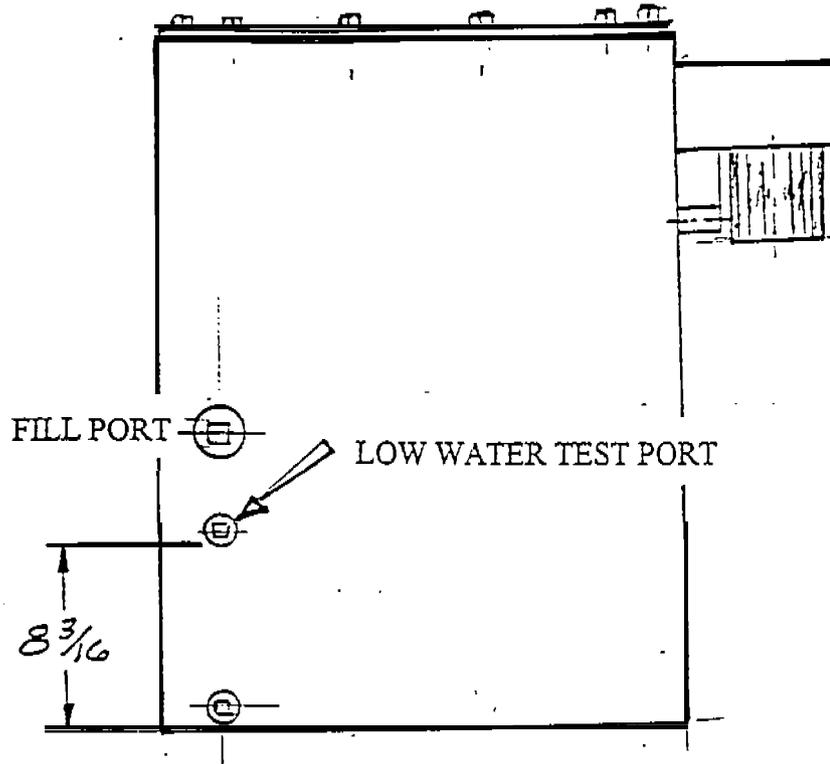

Figure 17. Location at Low Water Test Port and Fill Port
- (WEEKLY) 34. () Test for proper exhaust conditioner low water shutdown. The checkport on the exhaust conditioner for checking the proper low water shutdown level is shown in Figure 17. The bottom of the check port is 8 3/16 above the outside bottom of the exhaust conditioner.
(WEEKLY) 39. () Replenish exhaust conditioner water through the fill port located 12 3/16 above outside bottom of exhaust conditioner as shown in Figure 17.